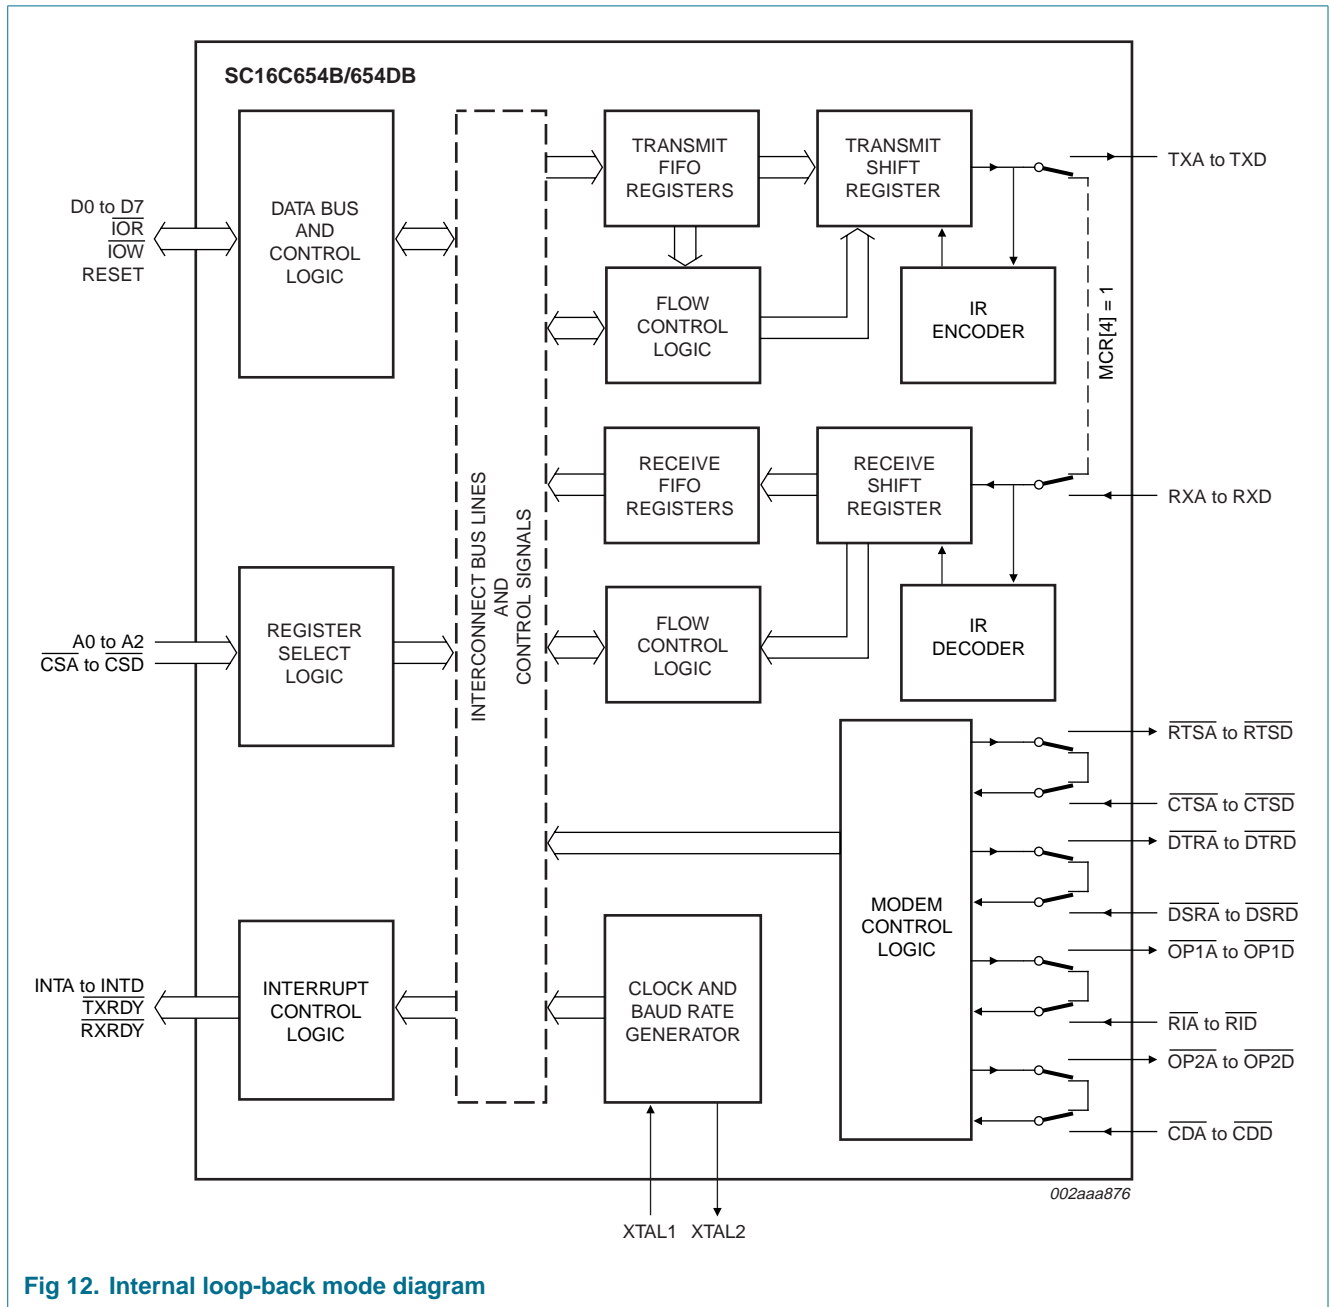

Fig 12. Internal loop-back mode diagram
The internal loop-back capability allows on-board diagnostics. In the loop-back mode, the normal modem interface pins are disconnected and reconfigured for loop-back internally. MCR[0:3] register bits are used for controlling loop-back diagnostic testing. In the loop-back mode, OP1 and OP2 in the MCR register (bits 2:3) control the modem \overline{RI} and \overline{CD} inputs, respectively. MCR signals \overline{DTR} and \overline{RTS} (bits 0:1) are used to control the modem \overline{DSR} and \overline{CTS} inputs, respectively. The transmitter output (TX) and the receiver input (RX) are disconnected from their associated interface pins, and instead are connected together internally; see Figure 12. The \overline{CTS} , \overline{DSR} , \overline{CD} , and \overline{RI} are disconnected from their normal modem control input pins, and instead are connected internally to \overline{RTS} , \overline{DTR} , OP2 and OP1. Loop-back test data is entered into the transmit holding register via the user data bus interface, D[0:7]. The transmit UART serializes the data and passes the serial data to the receive UART via the internal loop-back connection. The receive UART converts the serial data back into parallel data that is then made available at the user data interface D[0:7]. The user optionally compares the received data to the initial transmitted data for verifying error-free operation of the UART TX/RX circuits.